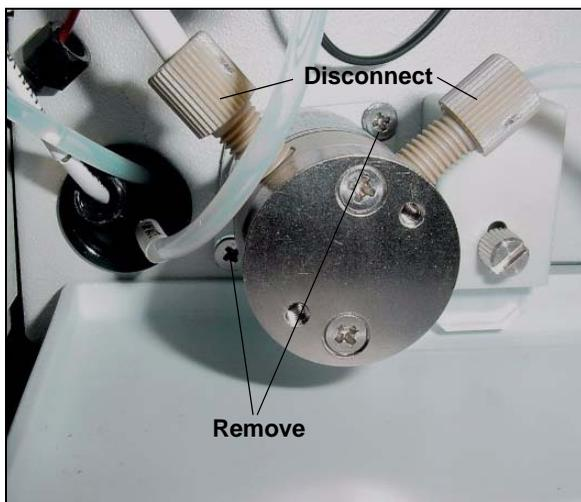

Figure 5-22. Eluent Valve
4. Disconnect the two liquid lines connected to the eluent valve (see Figure 5-22).
5. Unscrew and remove the two screws that attach the valve to the component panel (see Figure 5-22). Save the screws.